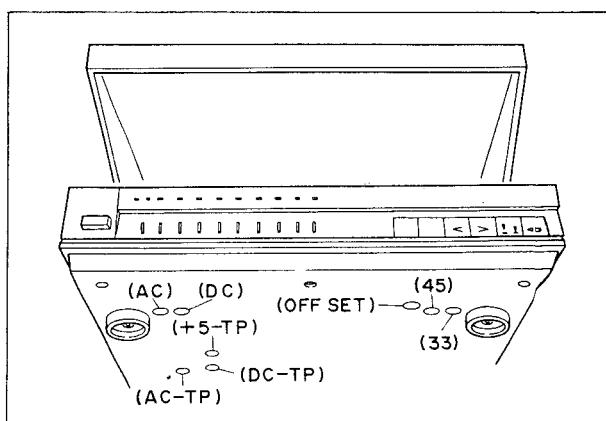

Fig. 9
- Connect an AC voltmeter (AVERAGE METER) between (+5-TP) and (AC-TP) as shown in Fig. 9.